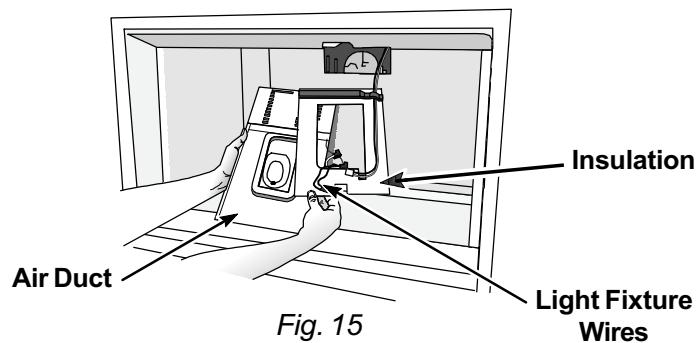

Fig. 15
6. Disconnect the electrical wire to the light switch and light socket and remove the air duct. the wiring harness will remain attached to a piece of insulating material, which can be moved out of the way when removing the evaporator cover. (Fig. 15)